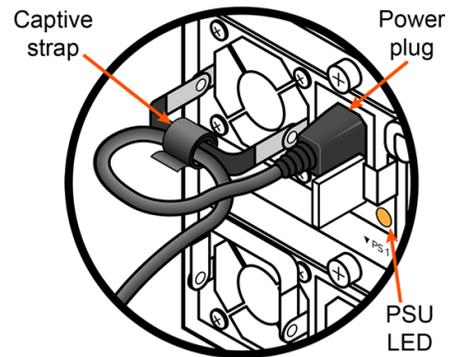

Figure 3-4. Removing the Power Plug
1. Unwrap the captive strap. See Figure 3-4.